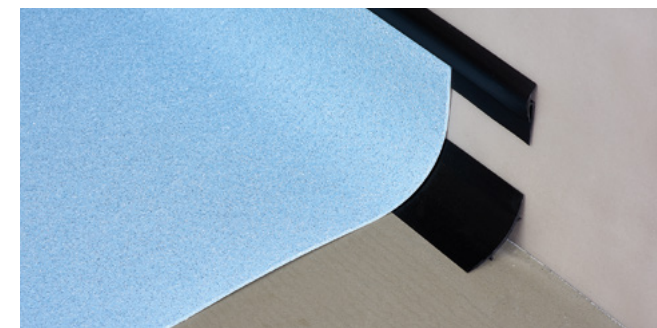

Figure 8 CS-N capping strips
3.13.1 Fitting Ejecta capping strip (type CS-N) Figure 8